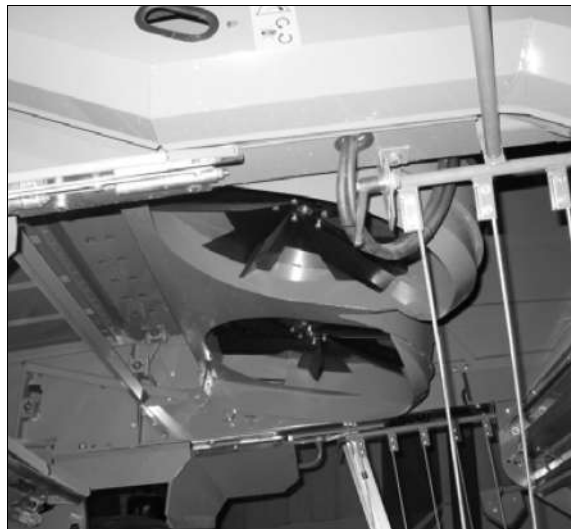

Fig. 5.
(fig. 5)
To do so, turn up the two pivotal retainers (1) on the right- and left-hand sides of the straw hood into vertical position, as shown in fig. 5, top picture.
Then fold up the chaff spreader into service position. Then fold up the chaff spreader into service position. Make sure always to stand behind the chaff spreader using the lever (2), to fold the chaff spreader into service position, as shown in fig. 5, bottom picture.